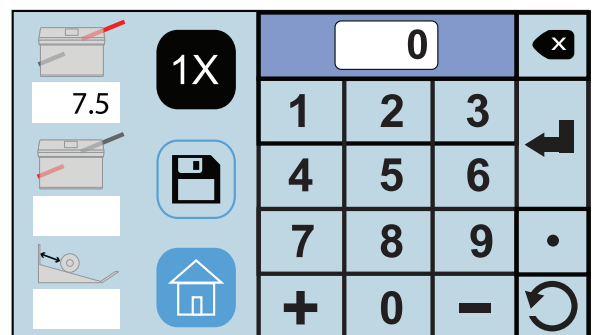

Fig. 16
Press the enter key  to enter the measurement . The white box under the icon will show the measurement entered (Fig. 16).
2. Select the lower fold plate icon  (Fig. 16) to set the fold stop position for the second fold (the icon will flash dark gray when selected). Using the touch pad, key in the measurement for the second fold stop position, (**Note:** the minimum position is 1.49" and the max. position is 8.40".).